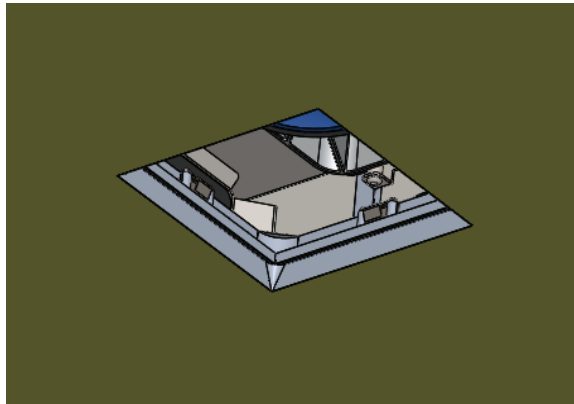

fig. 10
1. Apply skim coat up to the aperture rim using a joint compound. (For flangeless mud-in versions, cover the flange but not the retainer.) For best results, use a full ceiling float (see fig. 10).